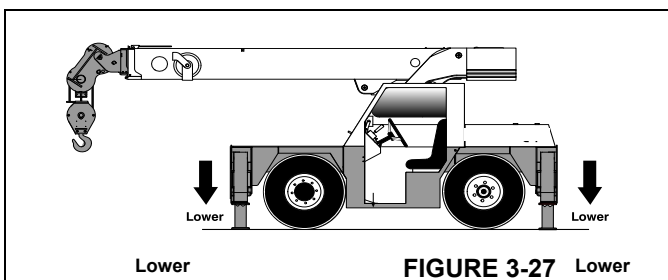

FIGURE 3-27
4. Push the top of the Extend/Retract Switch (2).
5. Press the accelerator pedal to increase the engine speed, which will accelerate the downward movement of the jacks (Figure 3-27). Release the accelerator pedal and the switch when the jacks are fully extended.